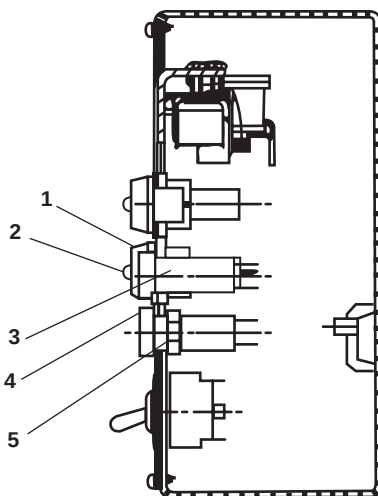

Figure 1. Navigation Lighting Panel
1. Remove the locking ring (figure 1, item 1) and the indicator lens (figure 1, item 2) from the light.
2. Remove the lamp (figure 1, item 3) from the socket.
1. Install the lamp (figure 1, item 3) in the socket finger tight.
2. Install the indicator lens (figure 1, item 2) and secure it with the locking ring (figure 1, item 1).
1. Remove the fuse holder cap (figure 1, item 4) from the panel.
2. Remove the fuse from the fuse holder cap (figure 1, item 4).
1. Install the new fuse in the fuse holder cap (figure 1, item 4).